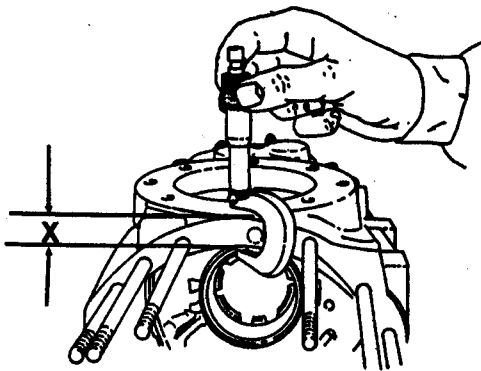

Figure 9.
2. Measure and record dimension X (Figure 9), between the pinion housing mounting face of the center (differential) casing and the nearest point of the adjacent intermediate housing counterbore, for later use in setting pinion depth.